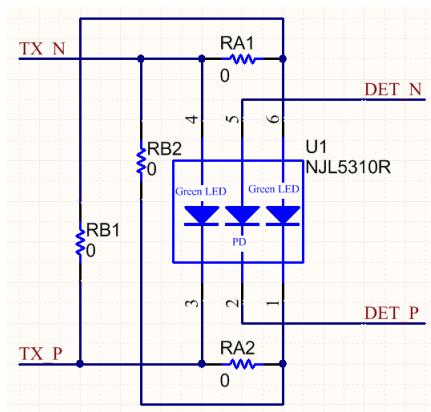

Figure 42. NJRC NJL5310R Sensor Board LED Connections
- The NJRC NJL5310R sensor board has two green LEDs that can be connected in parallel or back to back. RA1 and RA2 connects them in parallel and RB1 and RB2 connects them back to back, as shown in Figure 42. Note that when in parallel, both LEDs represent LED2 and when back to back, one represents LED1 and the other LED2. This board does not support TX3 mode.